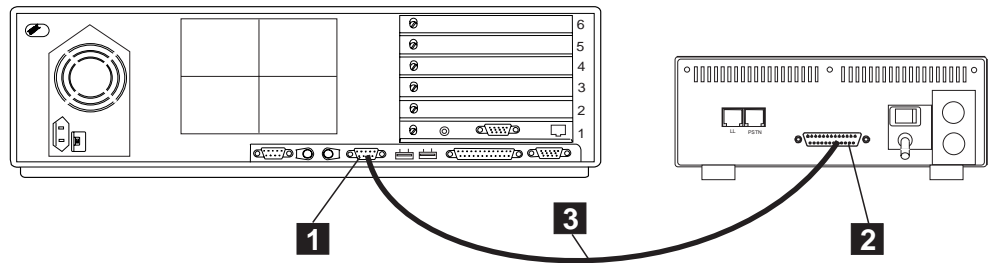

Figure 1-82. Connecting the Service Processor (7585) from COM1 to the 7857
- **7585**, refer to Figure 1-82 on page 1-73